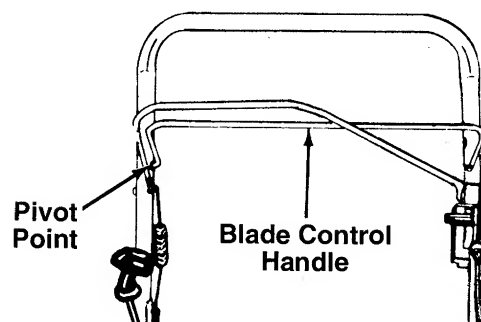

FIGURE 19.
**Blade Control**—Lubricate the pivot points on the blade control handle and the brake cable at least once a season with light oil. See figure 19. The blade control must operate freely in both directions.